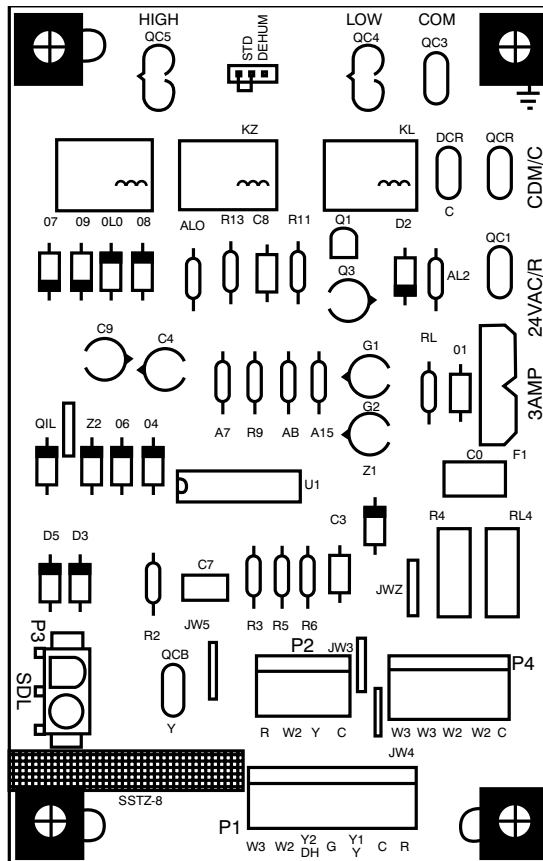

Fig. 22 – Interface Fan Board (IFB)
The cooling speed is marked “LOW” on the interface fan board (IFB) (See Fig. 22). The factory-shipped settings are noted in Table 6. There are 4 additional speed tap wires available for use in either electric heating or cooling (For color coding on the indoor fan motor leads, see Table 5). The additional 4 speed tap wires are shipped loose with vinyl caps and are located in the control box, near the interface fan board (IFB) (See Fig. 22).
2. Remove the current speed tap wire from the “LOW” terminal on the interface fan board (IFB) (See Fig. 22) and place vinyl cap over the connector on the wire.
1. Using Fig. 22, move the two pin DEHUM jumper from the “STD” position to the “DEHUM” position.
2. Remove fan speed tap wire from the “LOW” terminal on the interface fan board (IFB) (See Fig. 22).
1. Move the two pin DEHUM jumper located on control board (see Fig. 22) from the “STD” position to the “DEHUM” position.
When the DEHUM feature is not used, the continuous fan speed will be the same as cooling fan speed. When the DEHUM feature is used, the continuous fan will operate on IFB "LOW" speed when the DH control lead is not energized, or IFB "HIGH" speed when the DH lead is energized (see Fig. 22).